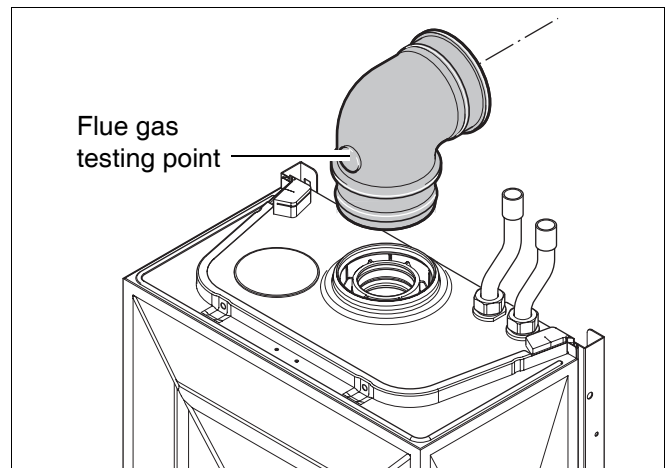

Fig. 17 Horizontal flue turret with flue gas testing point
- Fit the horizontal flue turret (fig. 17) onto the appliance flue connector.
- Push the assembly through the wall and slide the turret onto the flue connector. Refer to figure 17. Ensure that the turret is fully entered into the socket on the boiler.